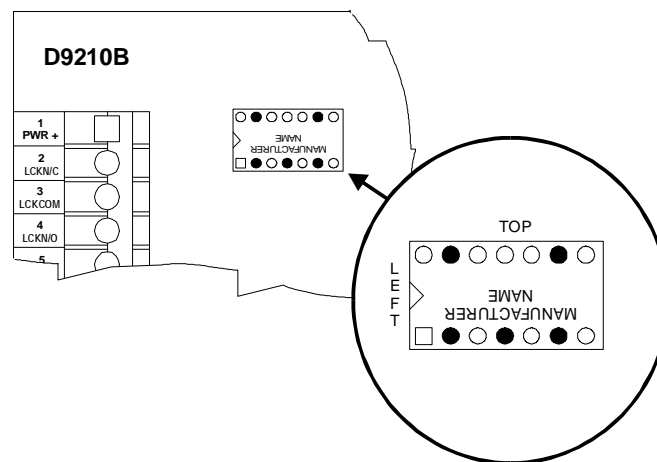

Figure 3. Relay Installation
1. Locate the relay socket on the D9210B board (shown in Figure 3).
2. Place the relay into the socket. The plug-in relay has two legs on the bottom and three legs on the top. When inserting the relay, ensure that it is oriented as shown in Figure 3.